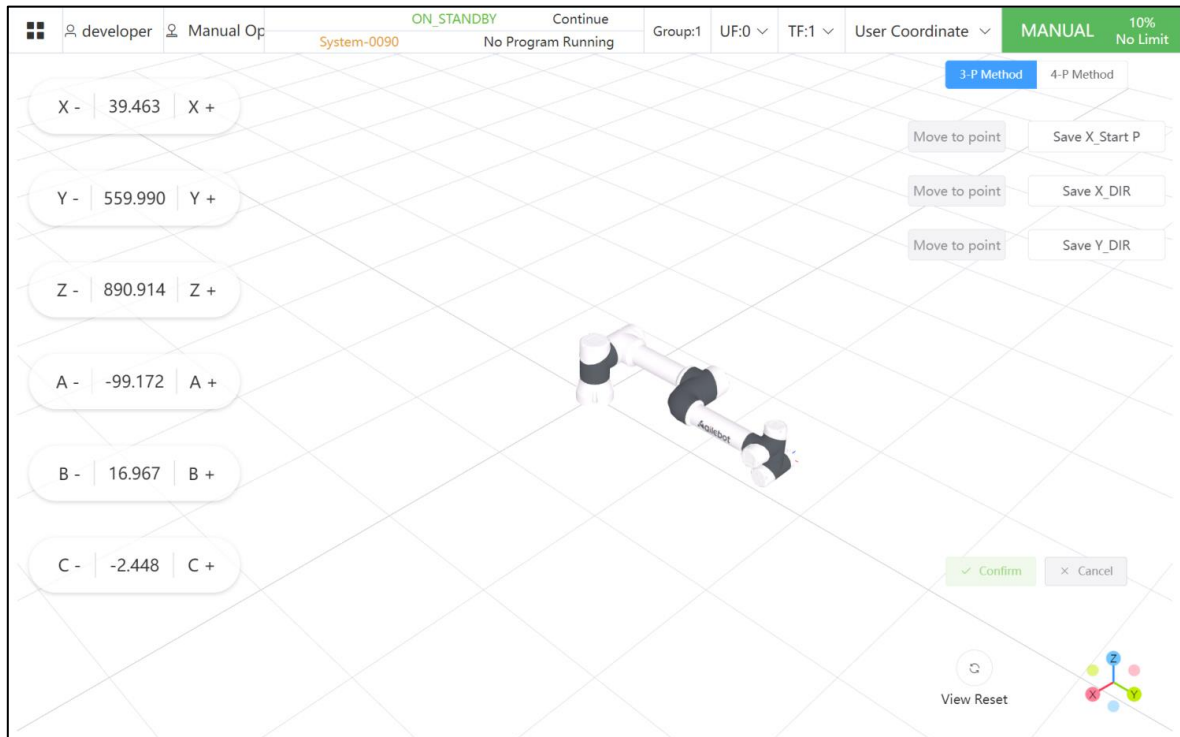

Fig. 2.27 3P Setting Window
- 2) Record the poses according to the description of the 3P/4P method. After all points are recorded, the user coordinate system can be automatically calculated, as shown in Fig. 2.27 "3P Method"/2.28 "4P Method".